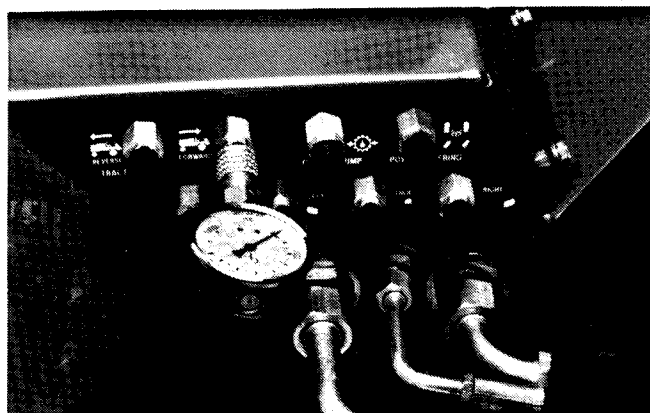

Figure 9
1. Connect a 10,000 psi gauge to traction circuit test port for function to be checked (TRACTION FORWARD shown) (Fig. 9).
2. Connect a 10,000 psi gauge to traction circuit test port for function to be checked (TRACTION FORWARD shown) (Fig. 9).